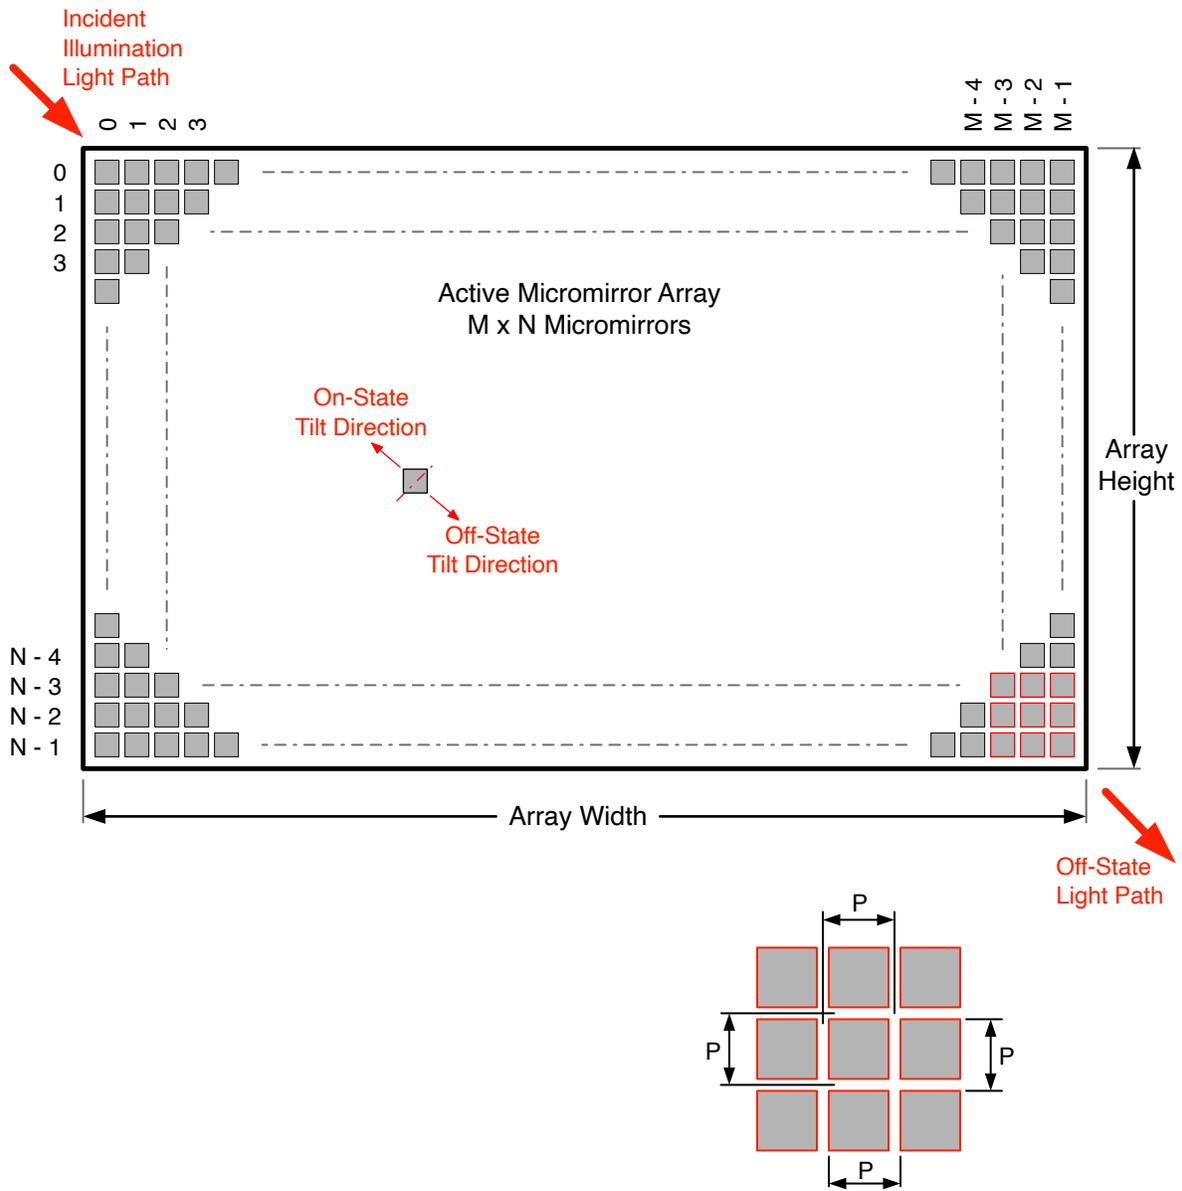

図 5-14. Micromirror Array Physical Characteristics
(1) See Figure 5-14.
(2) The structure and qualities of the border around the active array includes a band of partially functional micromirrors called the POM. These micromirrors are structurally and/or electrically prevented from tilting toward the bright or ON state, but still require an electrical bias to tilt toward OFF.
The DLP991U DMD is a 0.99-inch diagonal spatial light modulator that consists of an array of highly reflective aluminum micromirrors. The DMD is an electrical input, optical output micro-electrical-mechanical system (MEMS). The input electrical data interface is a differential high-speed serial interface (HSSI). The DMD consists of a two-dimensional array of 1-bit CMOS memory cells. The array is organized in a grid of M memory cell columns by N memory cell rows. Refer to Figure 5-14. The positive or negative deflection angle of the micromirrors can be individually controlled by writing a '1' or a '0' to each memory cell thereby changing the address voltage of underlying CMOS addressing circuitry.